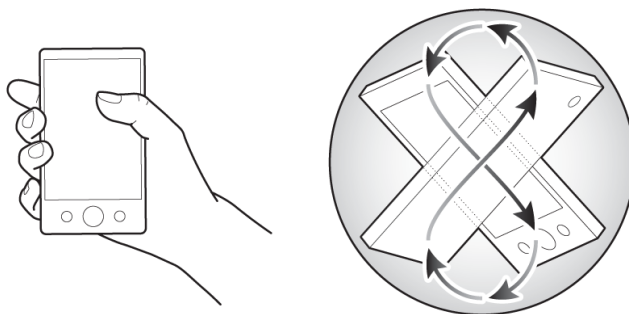

Figure 1: Magnetic Calibration Procedure
- 2) Read register 0x44 bit 1, gBiasUpdate bit, to verify that the gyro bias has been learned. Note that this flag should trigger approximately every two (2) seconds while the device is still.
- 3) Begin the magnetic calibration procedure. Rotate the device slowly in a figure-8 pattern so that each axis gets as much coverage as possible. Keep the center of the device as a pivot point. Rotate around this pivot point to cover the surface of an imaginary sphere as evenly as possible. An example rotation is shown below in Figure 1.